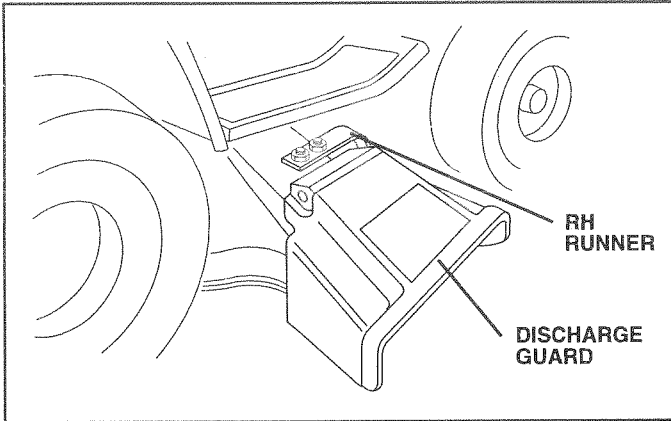

FIG. 10
## TO OPERATE MOWER (See Fig. 10)
- Use the runner on the right hand side to mow as a guide. The blade cuts approximately an inch outside the runner (See Fig. 10).